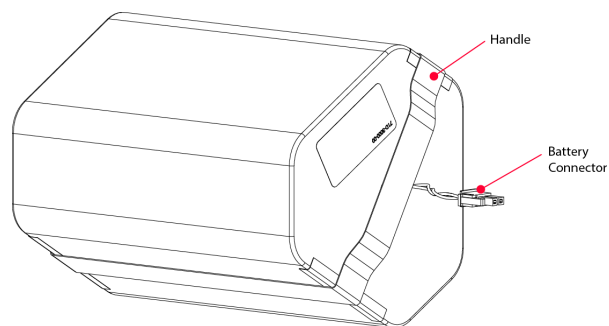

Figure 56. Battery Pack
4. Slide in the new batteries starting with the three batteries in the center with the negative side up. Next place the other three batteries with the negative side up. Place the last six batteries on the outer edges with the positive side up. See Figure 56 for battery orientation.